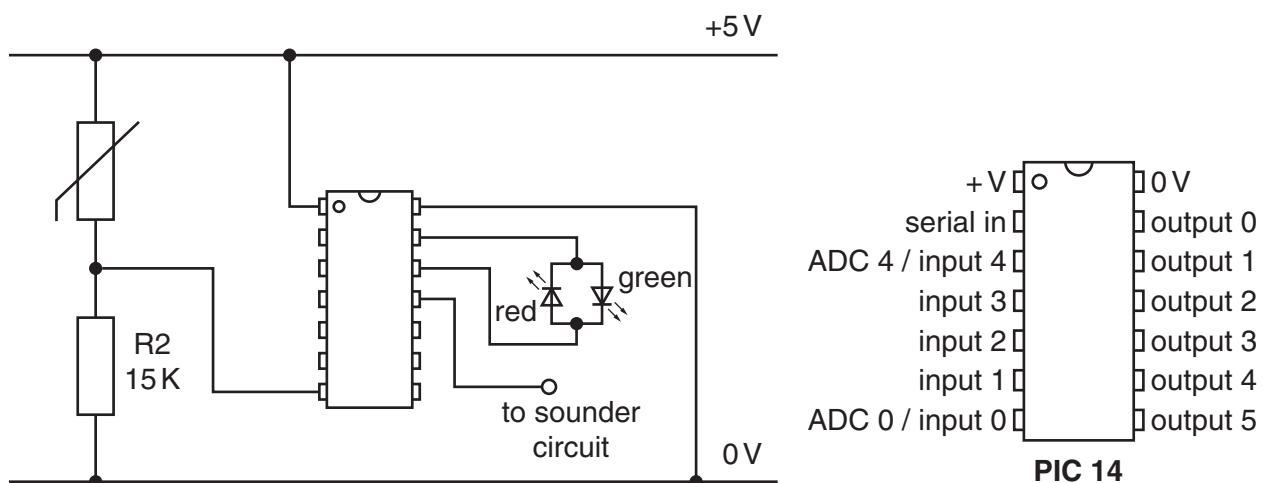

Fig. 15
- (b) The circuit uses a 14 pin PIC IC to convert the temperature signal from an analogue value to a digital value as shown in Fig. 15.
- (i) Use information from Fig. 15 to complete the table below showing the logic level of the outputs that will light each colour of the bicolour LED.